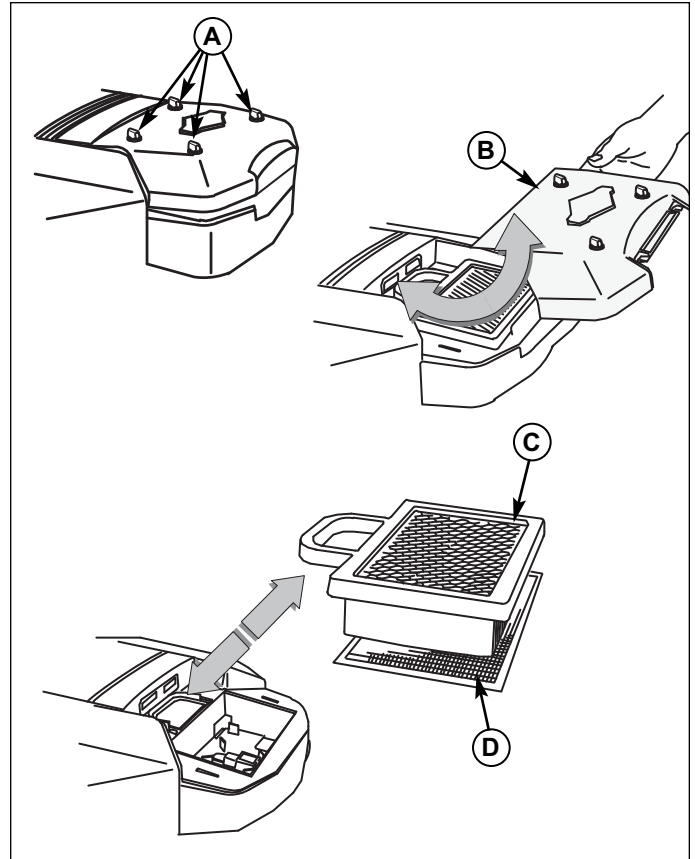

Figure 30. Air Filter Assembly - V-Twin Models
1. Unscrew the four knobs (A, Figure 30) by turning counterclockwise.
2. Remove the cover (B). Remove the air filter (C) and pre-cleaner (D).
3. Install the pre-cleaner (D) with the mesh side up. Install the air filter (C) as shown.
4. Install the cover (B) making sure the tabs are inserted into their slots. Secure by turning screws clockwise until snug.